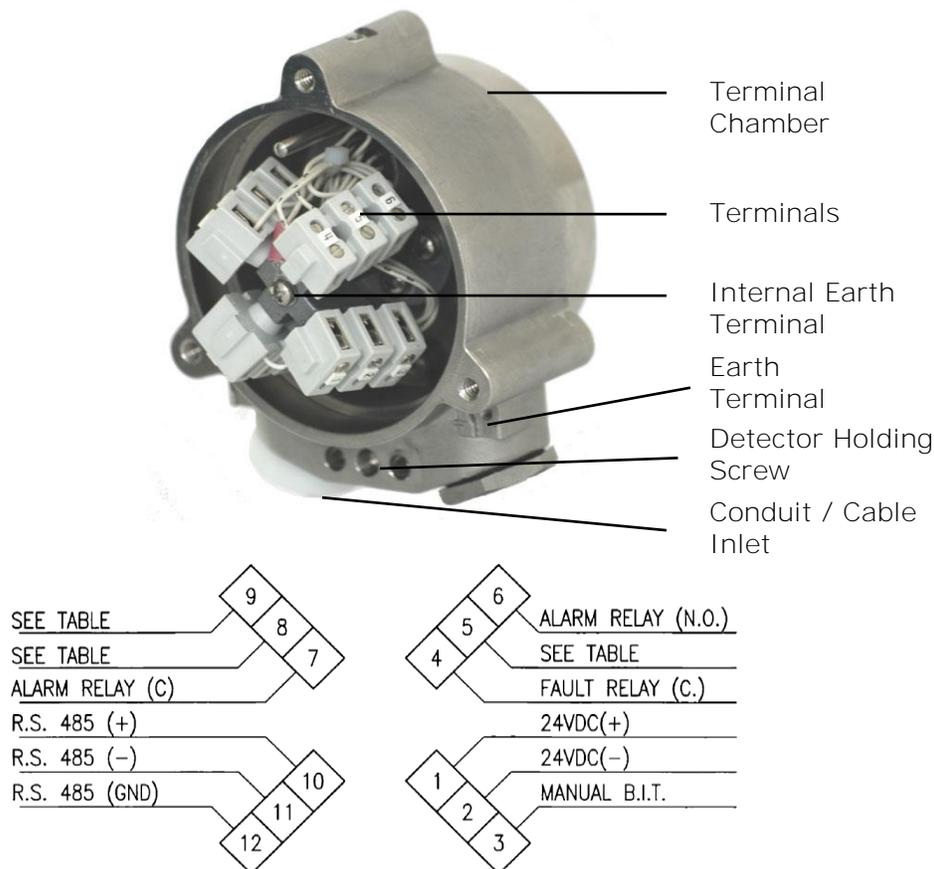

Figure 6: Detector with Cover Removed
This section describes how to connect the electric cabling to the detector (Figure 6).
- 5 Connect the wires to the required terminals on the Terminal Board according to the wiring diagram (Figure 6) and Table 13.
- 8 Check the wires for secure mechanical connection and press them neatly against the terminal to prevent them from interfering while closing the back cover (Figure 6).